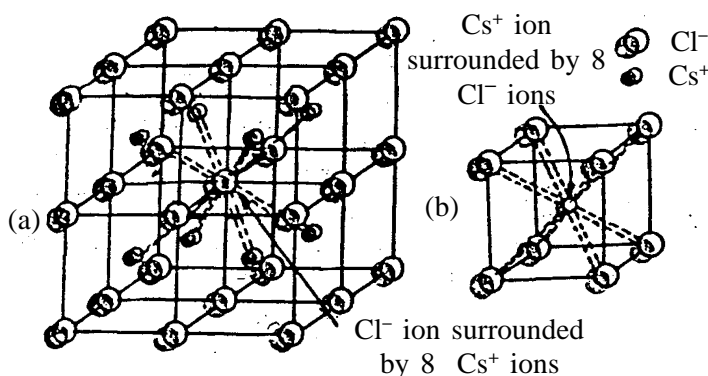

Fig. 1.18 Representation of  $\text{CsCl}$  structure.
- In this structure, each  $\text{Cs}^+$  ion is surrounded by 8  $\text{Cl}^-$  ions which are disposed towards the corners of a cube. (see the fig. 1.18) When the unit cell is extended, it can be seen that each  $\text{Cl}^-$  ion is also surrounded by 8  $\text{Cs}^+$  ions.